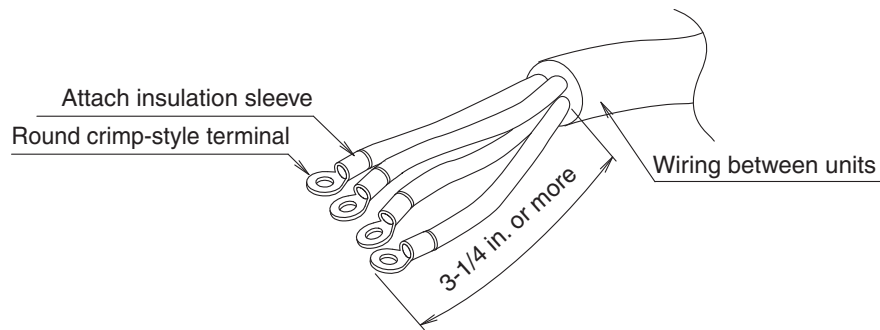

Fig. 30
- Give enough slack to the wires between the clamp (4) and power supply terminal block. Use Fig. 30 as a guide and allow at least 3-1/4 in. for removing the sheath.
(Refer to Fig. 30)